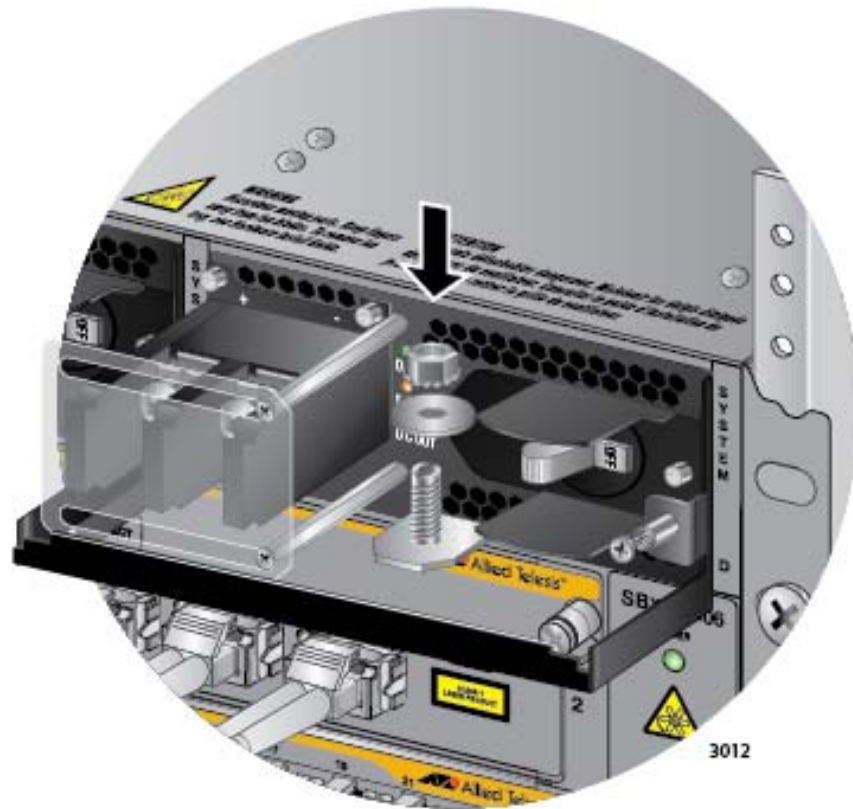

Figure 168. Reinstalling the Nut and Washer on the Grounding Post
10. Reinstall the nut and washer on the grounding post. Refer to Figure 168 on page 270.